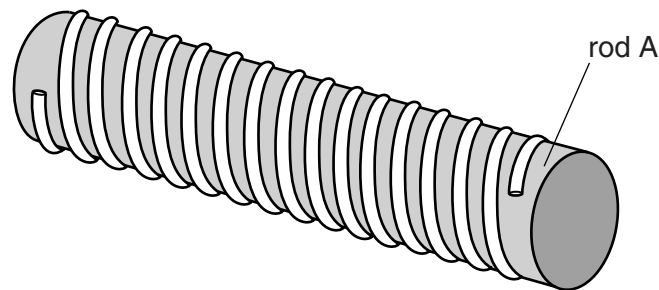

Fig. 2.1
- (b) (i) Wind one of the lengths of wire around the rod labelled A so that it makes a spring, as shown in Fig. 2.1.